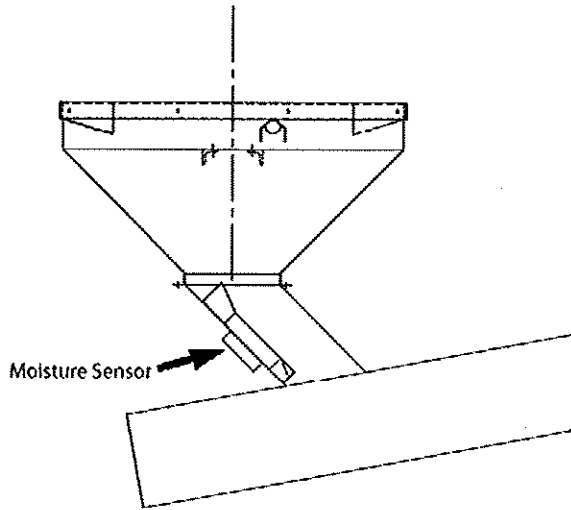

Figure 39
- If the Tower Dryer has a center dump, the sensor needs to be installed with flow-through sensor mount during Tower Installation. See Figure 39. The sensor mount is to funnel grain through and past sensor at a slower grain rate to measure moisture of grain properly. The flow-through device needs to be mounted on a flat surface with ample grain flowing into it. The sensor has 40' of wire to remotely locate a good position to mount sensor in grain path.